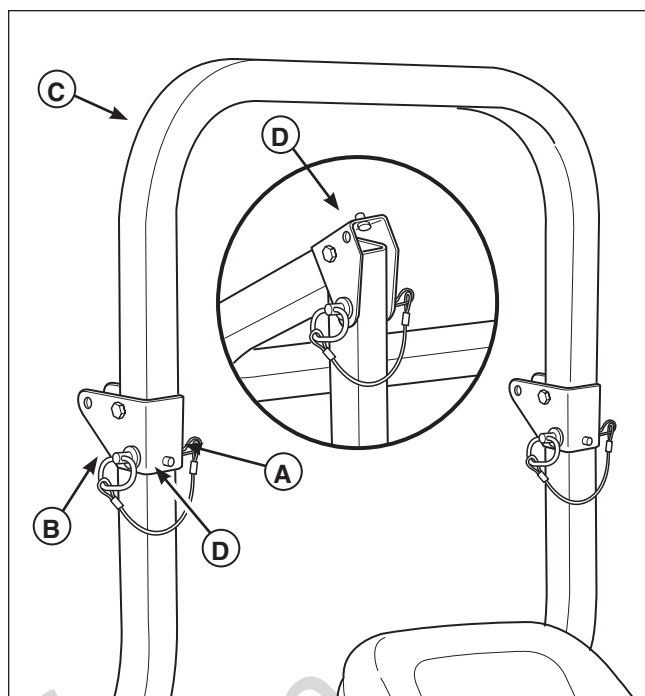

Figure 8. Raise & Lower the Roll Bar
1. Pull the hair pin clips (A, Figure 8) out of the retainer pins (B).
2. Push or pull the top of the roll bar (C) forward against the rubber stops (D) and remove the retainer pins (B).
3. Lower the roll bar into the down position (see insert, Figure 8).